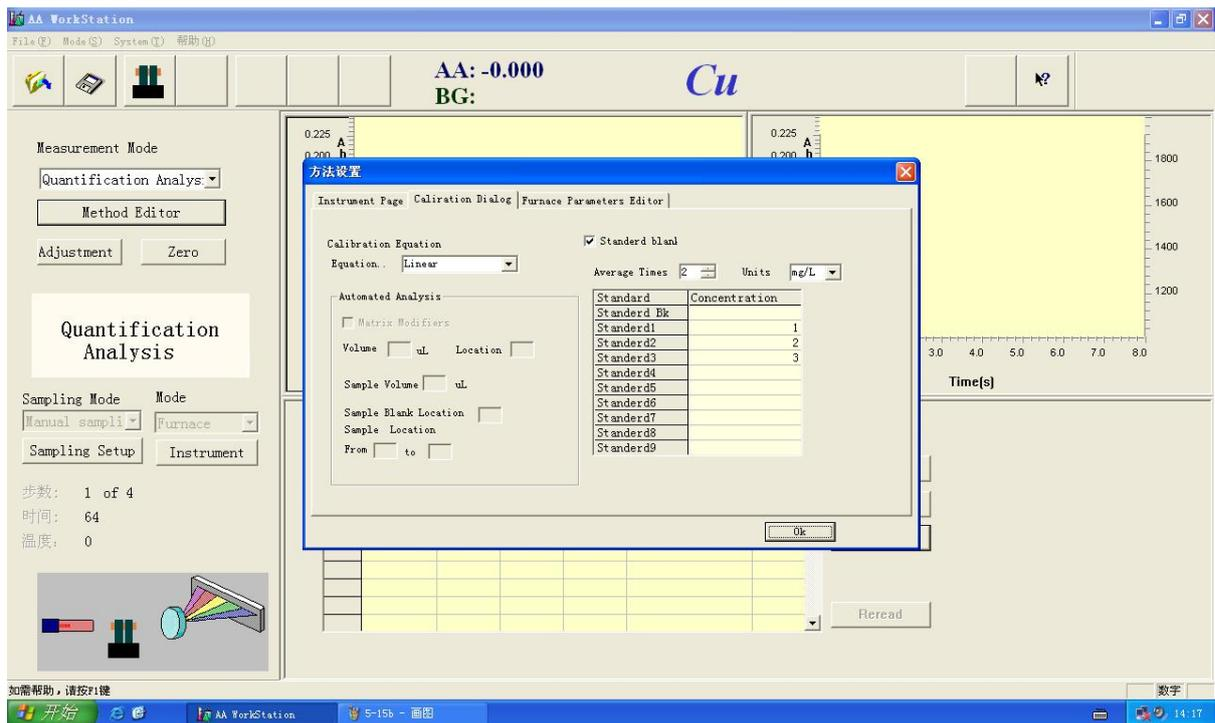

Figure 5-16
5..Select the “Linear” in the “Calibration Equation”,figure 5-16(notice:at least input 2 standard samples